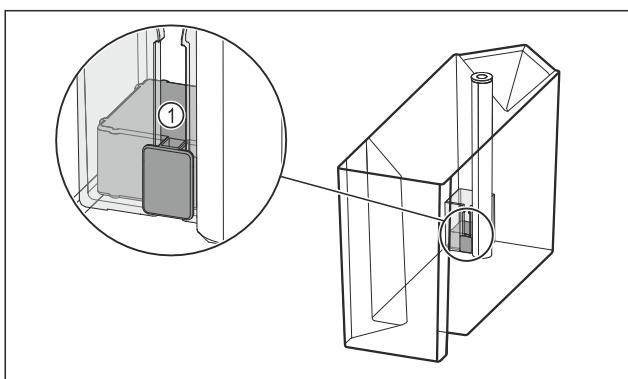

Fig. 101
- Check whether the float *Fig. 101 (1)* is jammed.